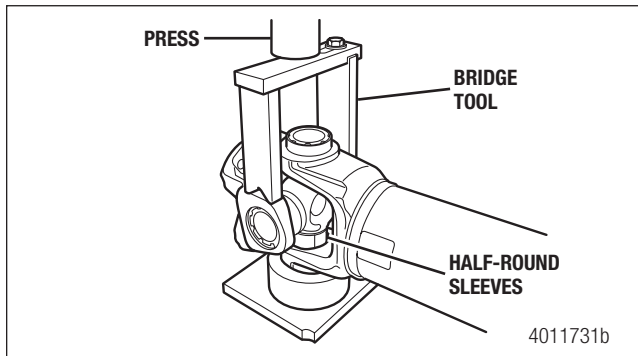

Figure 5.73
8. Install the drive flange assembly back into the bearing cup receiver. Refer to Section 16 for a tool drawing. Figure 5.73.